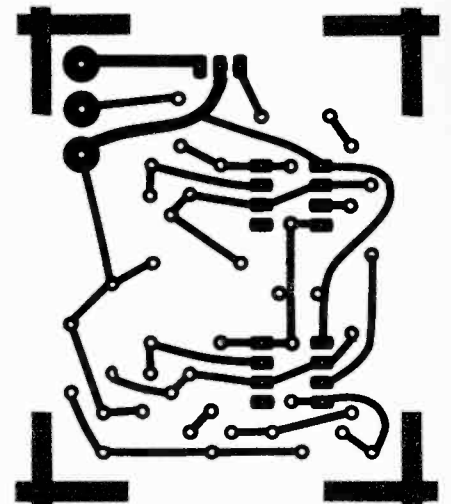

Fig. 2. This foil pattern will allow you to make a printed-circuit board of your own on which to mount the components.
**Building it.** Construction is straightforward. You can use either a perfboard or PC board to mount the parts. If you create a PC board using the foil pattern shown in Fig. 2, be sure to connect the jumpers that run underneath the ICs before installing the ICs themselves (see Fig. 3).